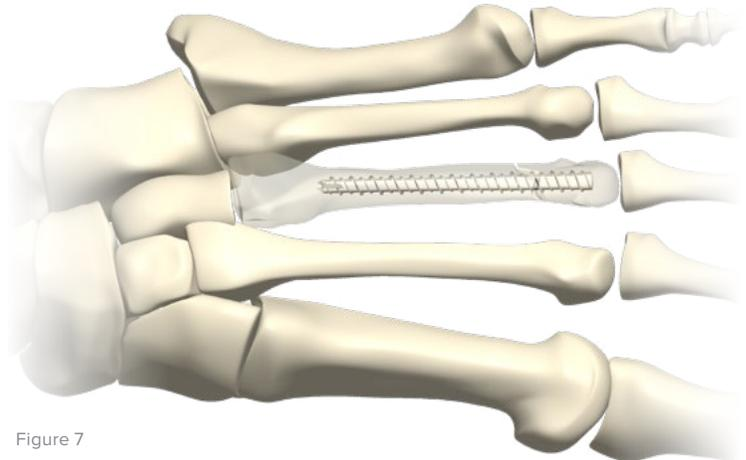

Figure 7
D. Once desired depth is achieved, disengage the driver. (Figure 7)